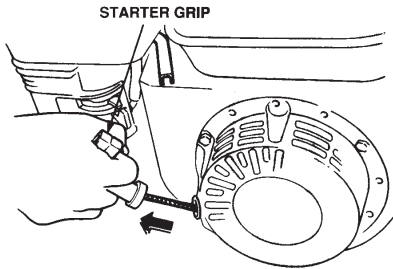

Figure 26. Starter Grip
6. Grasp the starter grip (Figure 26) and slowly pull it out. The resistance becomes the hardest at a certain position, corresponding to the compression point. Pull the starter grip briskly and smoothly for starting.